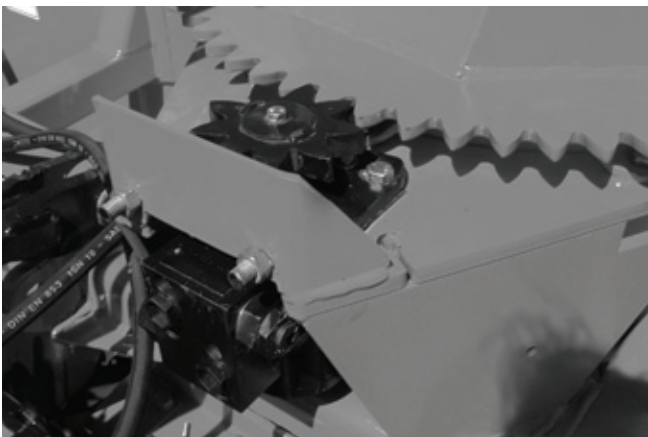

Figure 33
- 3) Install motor and 9 tooth gear. The thickness of the 9 tooth gear is slightly more than the ring-gear. Make sure it exceeds on both sides of the ring gear (Fig. 33).